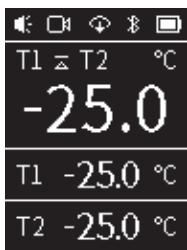

Figure 2
- 6.the dual temperature interface to enter the temperature difference interface, as shown in Figure 2, display the real-time temperature difference of the two thermocouples and display the real-time temperature of the two thermocouples at the same time, short press multiple times, and cycle through the temperature difference interface and the dual temperature interface ;